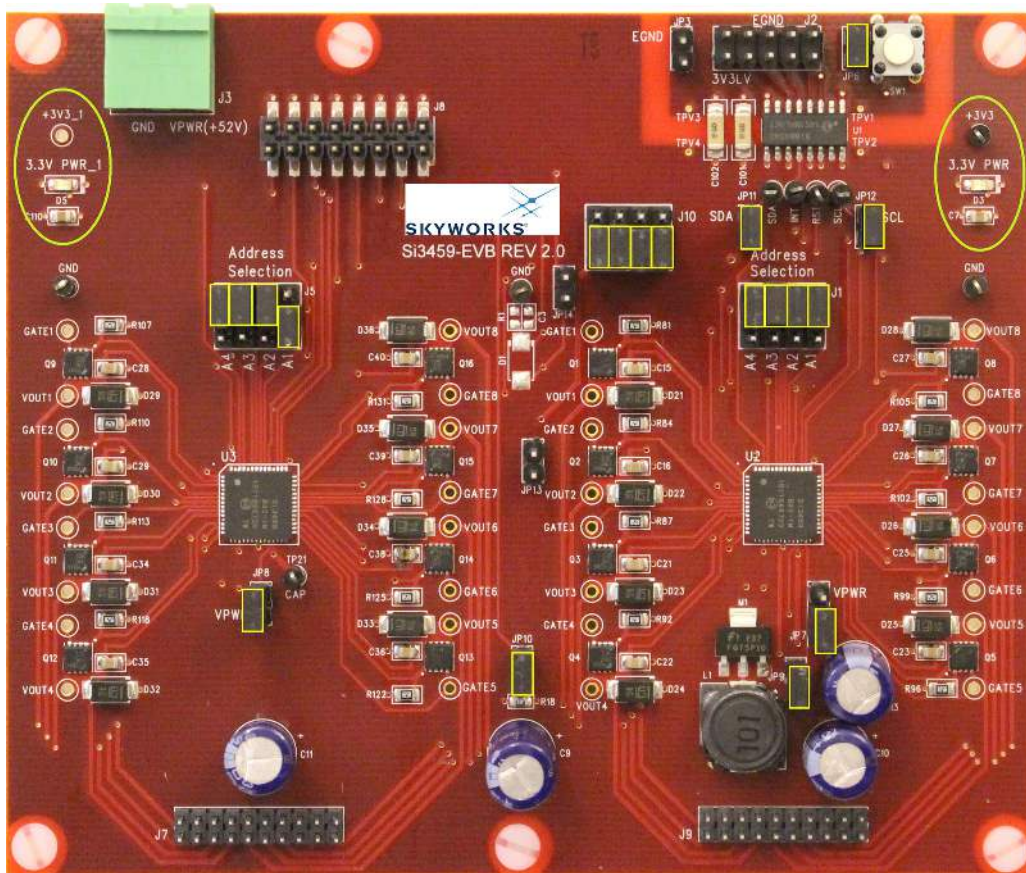

Figure 6. Si3459 Jumpers
1. Verify that Evaluation Board jumper placements are correct, according to Figure 18 schematic, Figure 6. “Si3459 Jumpers” and Table 2. On the Connector Board, the default condition occurs when all jumpers are installed.
4. Connect a 52 V power supply to J3. When the high voltage supply is turned on, the power LED D3 will indicate that the on-board generated 3.3 V logic supply is active. The power LED location is indicated by green circles in Figure 6. “Si3459 Jumpers”.